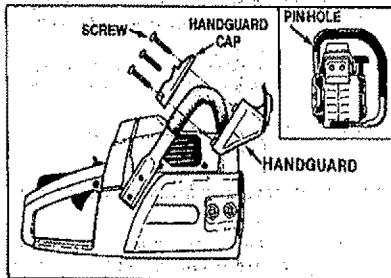

Figure 6
1. Align the Handguard and Handguard Cap around the Handlebar as shown in Figure 6.
2. Fit the mounting pin on the Handguard into the hole in the Handlebar. Figure 6.